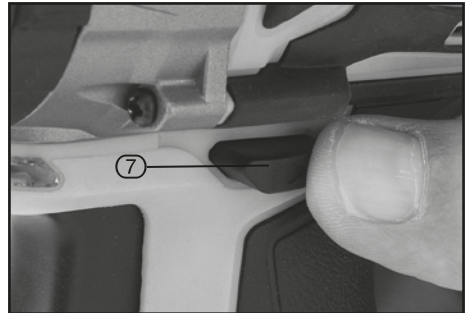

FIG.2
9.2 ROTATIONAL DRIVE SELECTION – FIG.2